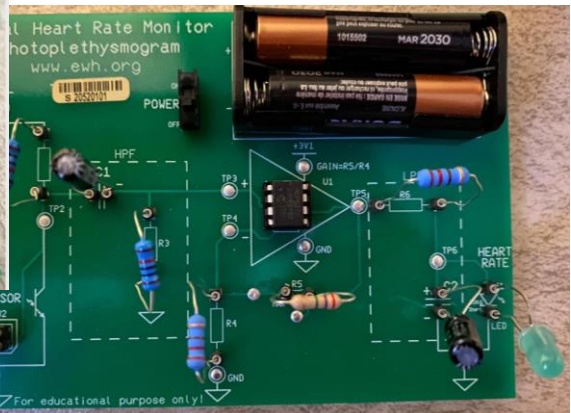

Figure 13: Side-view (a) and top-view (b) of the completed OHRM circuit.
**Congratulations!!** The Optical Heart Rate Monitor has been built. Check the constructed circuit against Figure 13 to make sure that all the components are in the right place.
- Make sure all components are in the correct place (Figure 13) and secure by gently trying to pull each one out of their sockets.